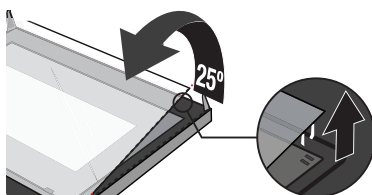

Fig. 4
4. Carefully lift the glass by approx. 25° (Fig. 4).